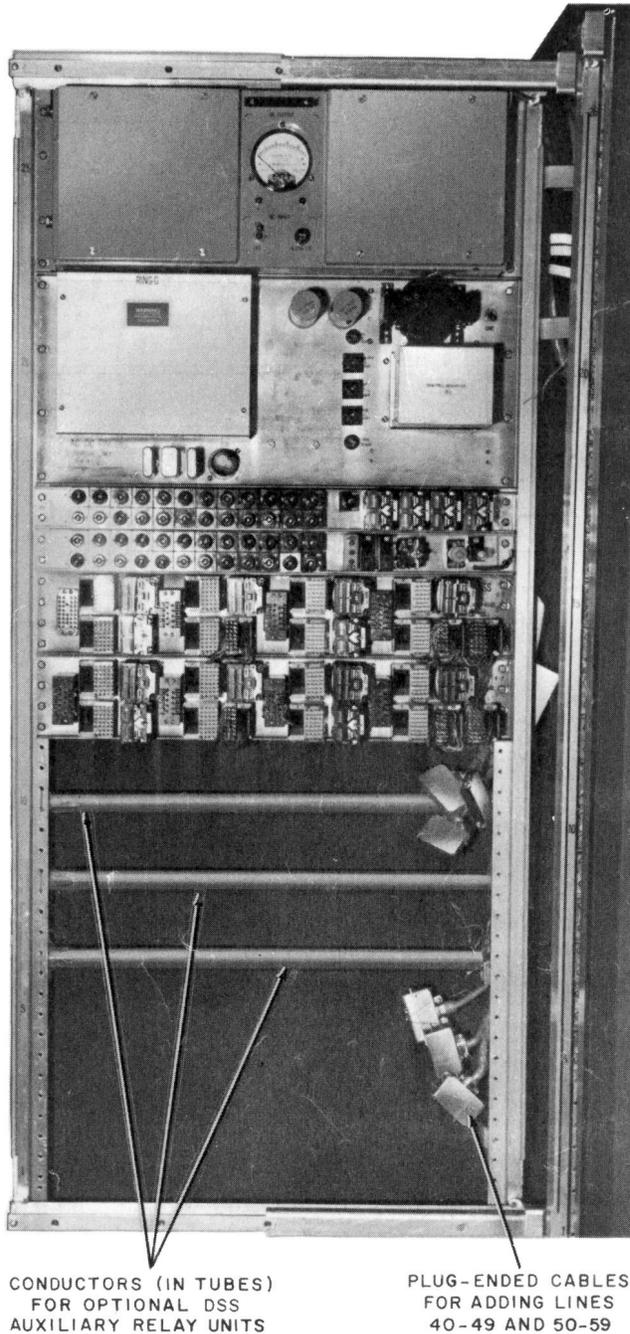

Fig. 4—Slide No. 1 (Extended)
4.06 The equipment within the cabinet is mounted on three vertical sliding-type racks. The three slides are provided with an interlocking device so that only one slide may be pulled out at a time, thus the weight distribution is such that the cabinet need not be anchored to prevent tipping. Each slide has a capacity for twenty-six 2- by 23-inch mounting plates. Plug-in cables are furnished to interconnect the three slide units within the cabinet (Fig. 4).